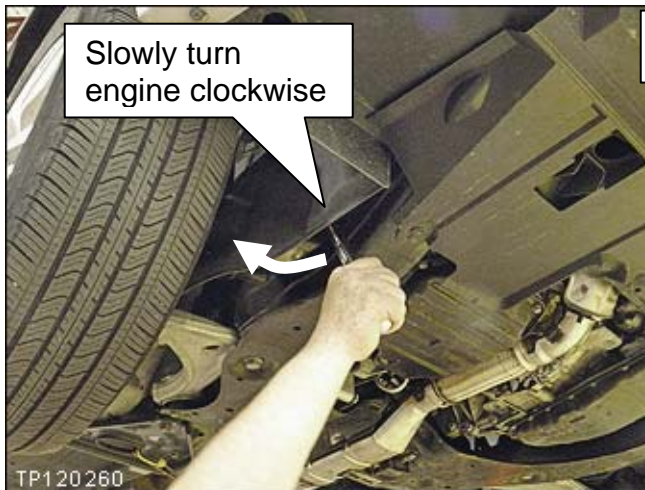

Figure P9a
14. Attach a 19 mm socket with handle to the front crank pulley (see Figure P9a).
- a. Watch the pressure gauge while slowly turning the engine (see Figures P9a and P9b).